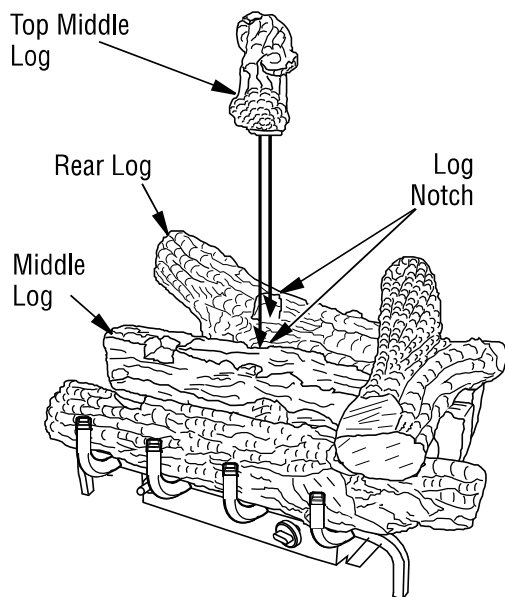

Figure 28 - Installing Middle Log
- Place the top middle log onto the rear & middle logs as shown in **Figure 28**. Make sure to match up the shape on the bottom of the top middle log with the notches in the rear and middle logs.